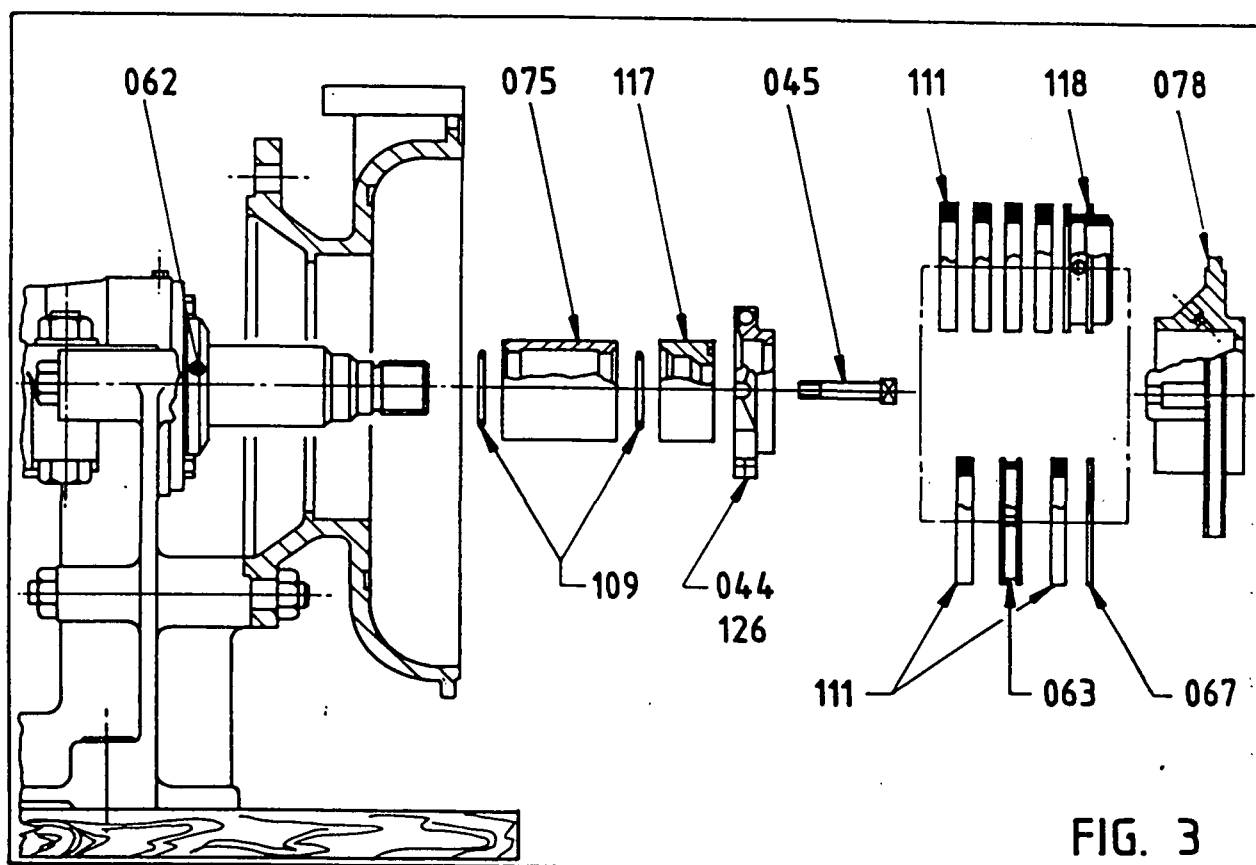

FIG. 3
6.3.1 GLAND ASSEMBLY: Fitting Stuffing Box, Lantern Restrictor, (or Neck and Lantern Rings), Packing, Gland, Shaft Sleeve, Shaft Spacer and Shaft Sleeve O-Rings - See Fig 3